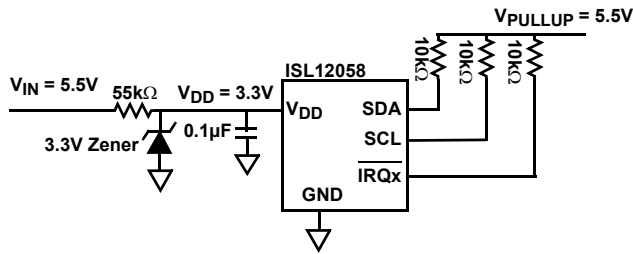

FIGURE 3. EXAMPLE CIRCUIT WITH ZENER DIODE ON V_{DD} TO REDUCE INPUT VOLTAGE TO 3.3V
- A system that cannot connect V_{DD} to a voltage lower than 3.6V can use a Zener diode on the V_{DD} pin to lower the V_{DD} to 3.6V or below. Figure 3 shows an example circuit with a Zener diode to lower the 5.5V input voltage to 3.3V for V_{DD} .
- A system that cannot connect V_{DD} to voltage lower than 3.6V can use a Zener diode on the V_{DD} pin to lower the V_{DD} to 3.6V or below. Figure 3 shows an example circuit